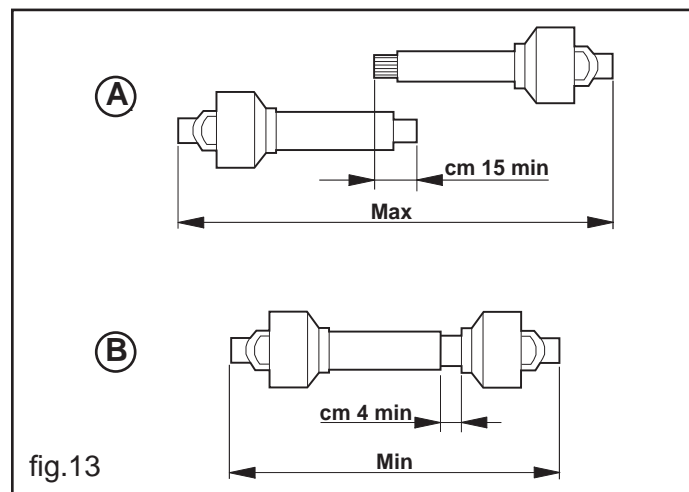

fig.13
- When the Cardan shaft is with drawn to the end of its stroke, the two pipes should overlap by at least 15 cm (A fig.13). When it is inserted all the way, the minimum admissible play is 4 cm (B fig.13).